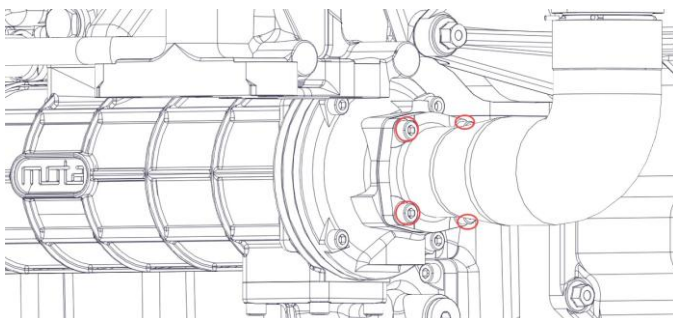

Figure 154-1.
2. Remove the four lower water pump pipe bolts and remove the lower water pump pipe (Figure 154-1).